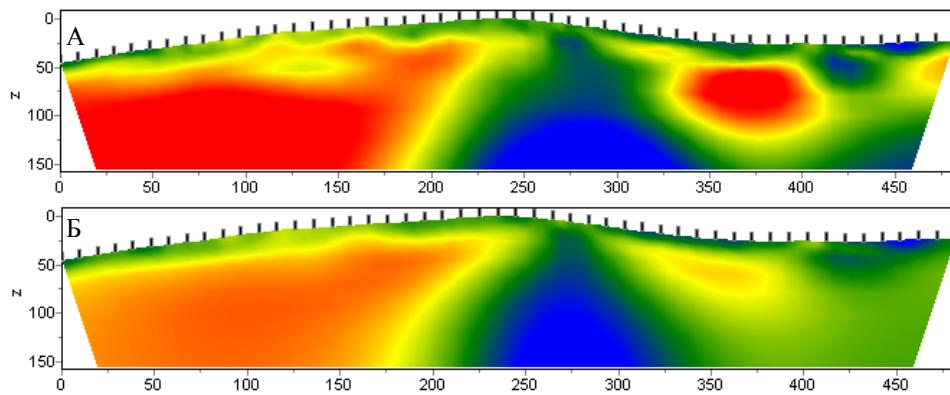

Fig. 44. Geoelectric models as a result of **Occam** inversion with smoothing factor: 0.01 (A) and 1.0 (B). Resultant misfit for case A – 4.5 %, case B – 6 %.
**Smoothing factor** sets dependence of measurement misfit minimization on model misfit. In case of noisy environment or in order to receive smoother and more stable parameters distribution quite high smoothing parameter value is chosen: 0.5 – 2.0; 0.005 – 0.1 values are used for high quality data. High smoothing parameter values mostly lead to high data misfits (fig. 44). Smoothing factor is used in **Occam** and **Focused** inversion algorithms.